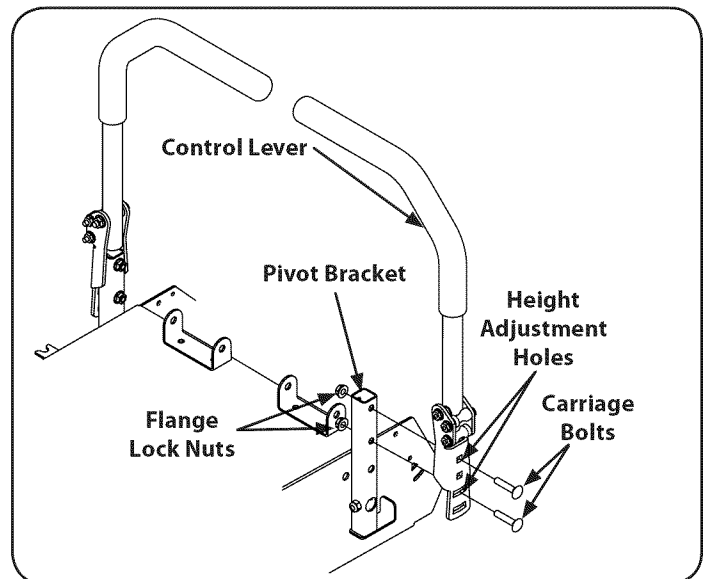

Figure 33
1. Remove the nuts from the control lever mounting bolts. See Figure 33.